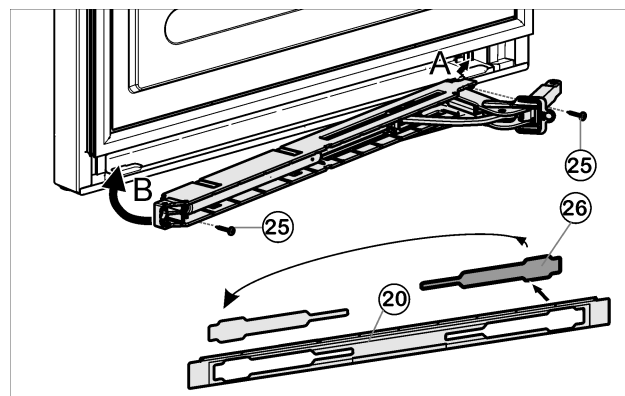

Fig. 14
- ▶ Loosen cover *Fig. 14 (26)* from the panel *Fig. 14 (20)* and insert on the other side.
- ▶ With the hinge of the soft stop unit facing the door hinge side, engage the soft stop unit (A) and swivel inwards (B)
- ▶ Tighten soft stop unit (2 x Torx® 15) *Fig. 14 (25)*.